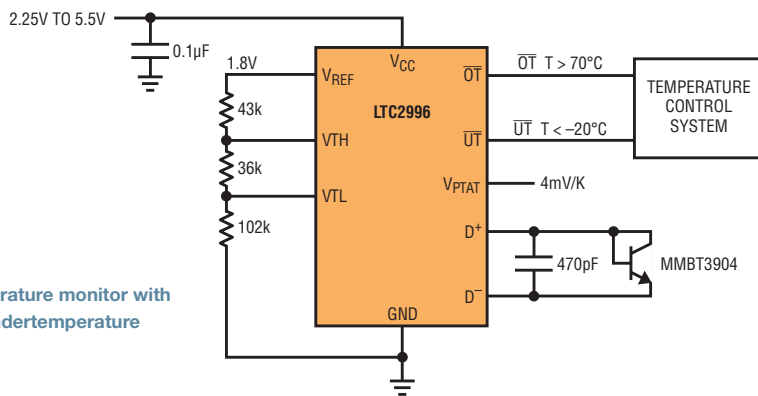

Figure 9. Remote temperature monitor with overtemperature and undertemperature thresholds
The LTC2996 adds threshold inputs  $V_{TH}$  and  $V_{TL}$  to the LTC2997 and continuously compares  $V_{PTAT}$  to these thresholds to detect overtemperature (OT) or undertemperature (UT) conditions. The threshold input voltages can be conveniently set by resistive dividers from the built-in reference voltage, as depicted in Figure 9.
If the temperature of the remote diode in Figure 9 increases above  $70^{\circ}\text{C}$ , the  $V_{PTAT}$  voltage exceeds the high temperature threshold at  $V_{TH}$ . The LTC2996 detects this overtemperature condition and alerts the temperature control system by pulling the OT pin low. In the same way, a temperature falling below  $-20^{\circ}\text{C}$  is communicated via the UT pin. Note that the LTC2996 pulls on the open drain alert outputs only if the temperature exceeds the corresponding threshold for five consecutive update intervals of 3.5ms each. The OT and the UT pin have internal weak 400k pull-up resistors to  $V_{CC}$ —no external resistors are required in many applications.